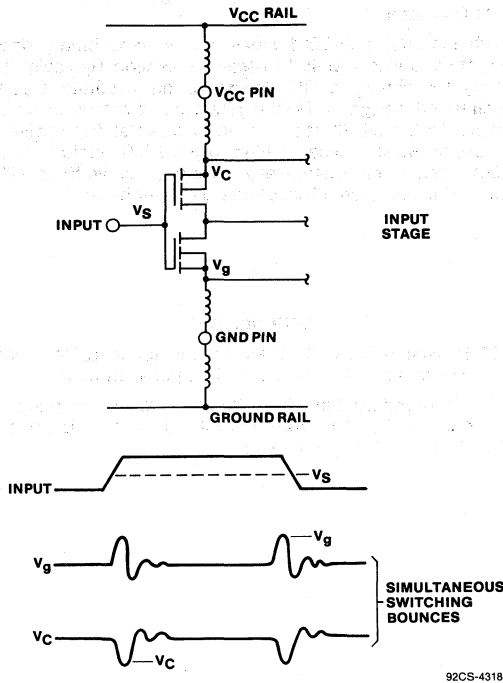

Fig. 37 - Input circuit and simultaneous switching bounces that reduce noise immunity.
Simultaneous switching transients affect the maximum input t_r , t_f . Fig. 37 illustrates a worst case but feasible condition for either a hex inverter type (04 or 05) or a hex inverting Schmitt-Trigger type (14). Using a printed circuit board designed for a ground-bounce measurement, five of six outputs are switched simultaneously causing the internal power or ground point bounce as discussed previously under the heading **Simultaneous Switching Transients**.
Examination of the input stage and waveforms in Fig. 37 shows clearly that typical noise immunity at the input is significantly reduced during the presence of the ground or V_{CC} bounce time as quantified below: